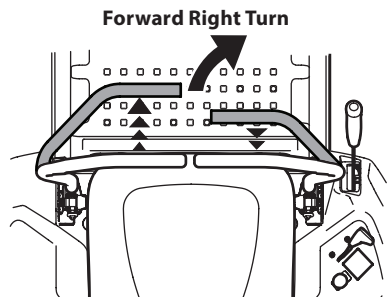

Figure 25
2. To turn to the right, move the right drive control lever rearward of the left lever. See Figure 25.